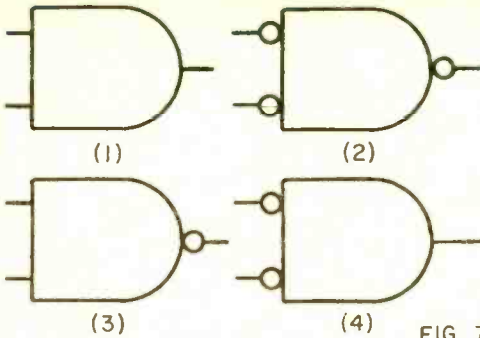
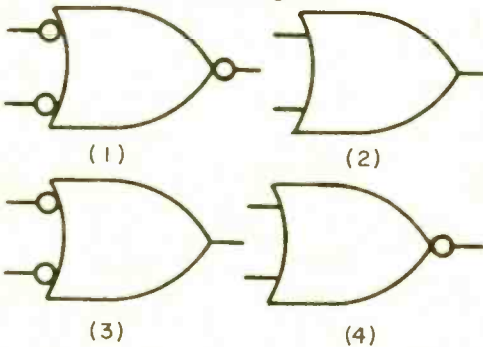
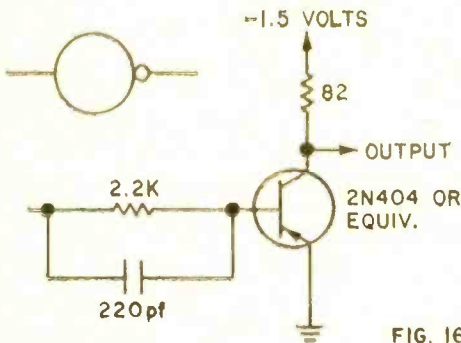

FIG 7
FIG 8
FIG. 16
It's important to understand the discussion up to this point because there are so many variations of basic *AND* and *OR* circuits. However, insofar as circuit design is concerned, we can consider four different distinguishable *AND* type circuits which can be represented symbolically as shown in Fig. 7.
In accord with De Morgan's Theorem each of these can be represented by its equivalent *OR* as shown in Fig. 8.
Symbols (1) and (2) in both Figs. 7 and 8 are referred to as: *AND/OR* logic. Symbols (3) and (4) are referred to as: *NAND/NOR* logic.
The actual logic functions we use in a specific problem are determined by which of these four basic logic designs we select and whether the logic level is *High* (\uparrow) or *Low* (\downarrow). As an example, if the logic level is *High* (\uparrow), *AND* logic will be represented by the functions (1) in Figs. 7 and 8. These same functions will conform to *OR* logic if the logic level is *Low* (\downarrow).
If the logic level is *High* (\uparrow), *OR* logical will be represented by the functions (2) of Figs. 7 and 8.
Remember, the four symbols in Fig. 7 represented *AND* functions of four separate circuits, and the symbols in Fig. 8 represent the *OR* functions of the same four circuits.
A basic inverter building block schematic is detailed in Fig. 16. The schematic for this basic *NAND/NOR* module whose functions are the same as those depicted in Figs. 7 (3) and 8 (3) is illus-
You have the choice of naming your logical 1 level as Low (↓) or High (↑). Since we are using the particular circuit of Fig. 16 as our basic hardware, we have *NAND/NOR* logic. If we're to call logical 1 High (↑) then we have narrowed it down to *NAND* logic. If we decide to reference logical 1 Low (↓) then we would be dealing with *NOR* logic. Had Q1 of our basic circuit been an npn and with 1.5-V polarity change as required, then this *NAND/NOR* logic would be a *NAND* logic for logical 1 Low (↓) and *NOR* logic for logical 1 High (↑). Refer to the Logic Guide.